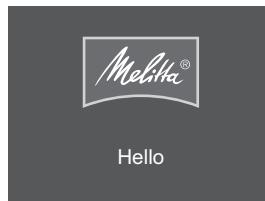

Fig. 5: Welcome display
2. Press the ON/OFF button (9).
- » The welcome display appears on the display (see Fig. 5).